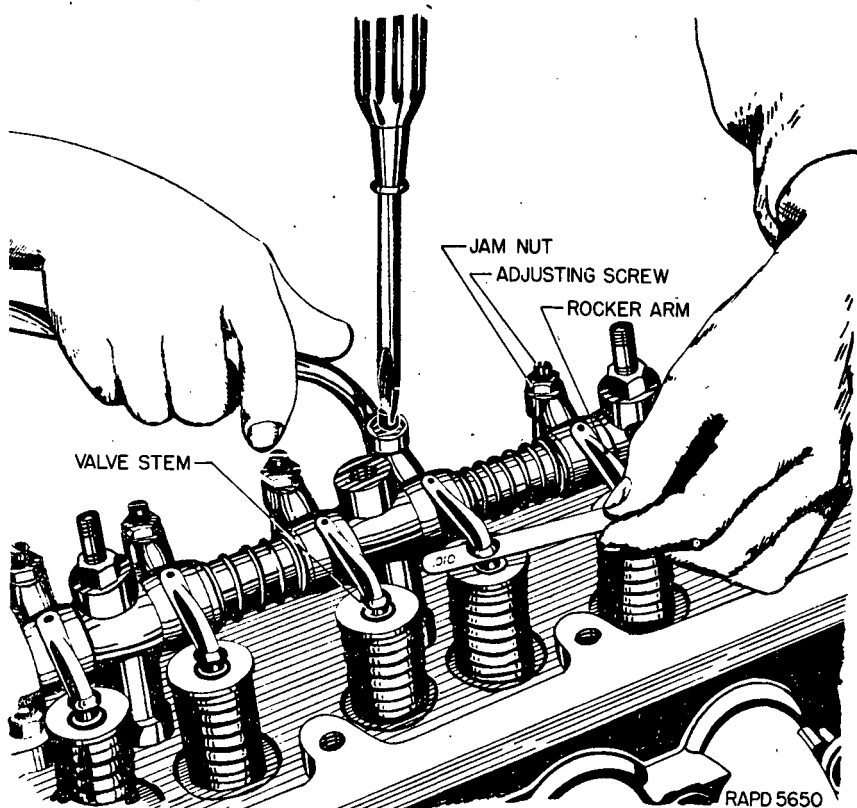

FIGURE 12.—Valve tappet adjustment.
(1) Loosen the hose clamp near the air cleaner end of the carburetor hose connection.
(2) Remove the two hex head cap screws which secure the air cleaner to the engine block.
(3) To replace, proceed in the reverse of the above procedure, being sure to replace the lock washers beneath the heads of the cap screws.
42. Valve tappet adjustment.—The valve clearance is adjusted with the engine at normal operating temperature. The following procedure is prescribed (fig. 12) :